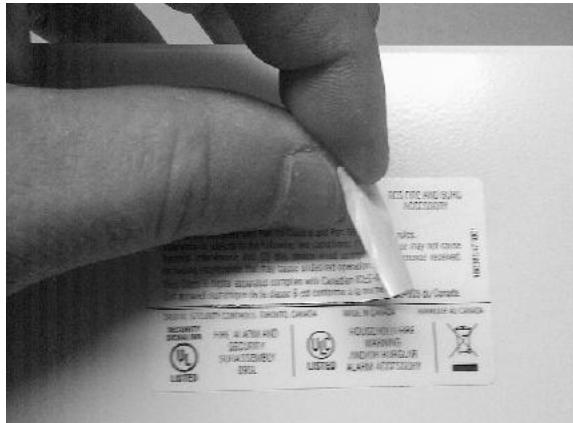

Figure 3
- When upgrading from a GS30XX to 3G4010 communicator, replace the information label on the inside of the cabinet and the approvals label on the outside of the cabinet. Match the model number of the current GS30XX communicator with its corresponding 3G4010 replacement. (GS3055/60→3G4010 or GS3055-ICF→3G4010CF). From the labels provided, select the information label with matching model number and place over the information label applied to the inside of the cabinet, completely covering the old label. From the labels provided select the corresponding approvals label and apply, covering the top half of the approvals label (see figure 3), located on the outside of the cabinet. The bottom half contains the manufacturer's name, UL and ULC marks and must remain visible. Discard the unused information label and approvals label.